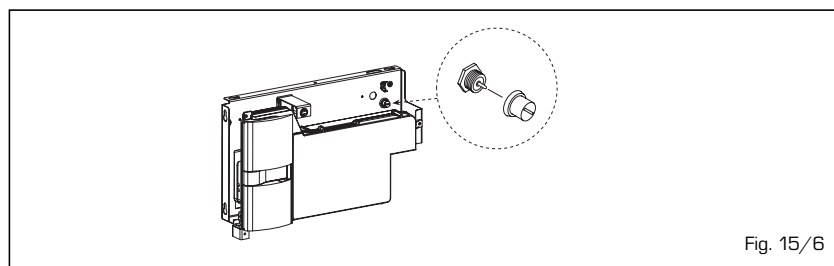

Fig. 15/6
– **AUXILIARY SENSOR ANOMALY ALARM 10 (fig. 15/9)**